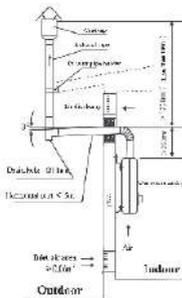

Fig.10
2) The flue exhaust pipe should be high temperature resistance(over 200 °C ) and rust-proof(Fig.10).